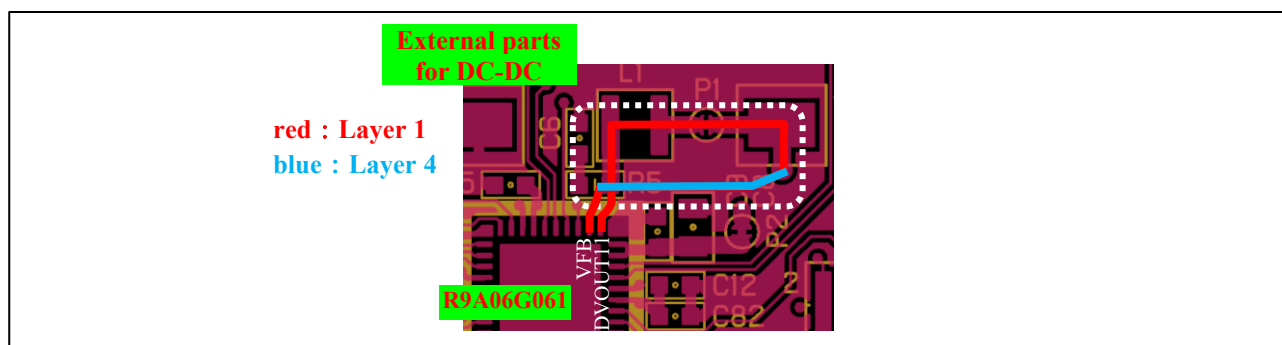

Figure 2-8 Placement of the external parts for R9A06G061 built-in DC-DC
- Place the R9A06G061's decoupling capacitance and the R9A06G061's built-in DC-DC external components near the R9A06G061's terminals, and make the wiring from DVOUT11 to VFB as short as possible, avoiding crossing with other signals. Figure 2-8 shows an example of the placement of external DC-DC converter components.